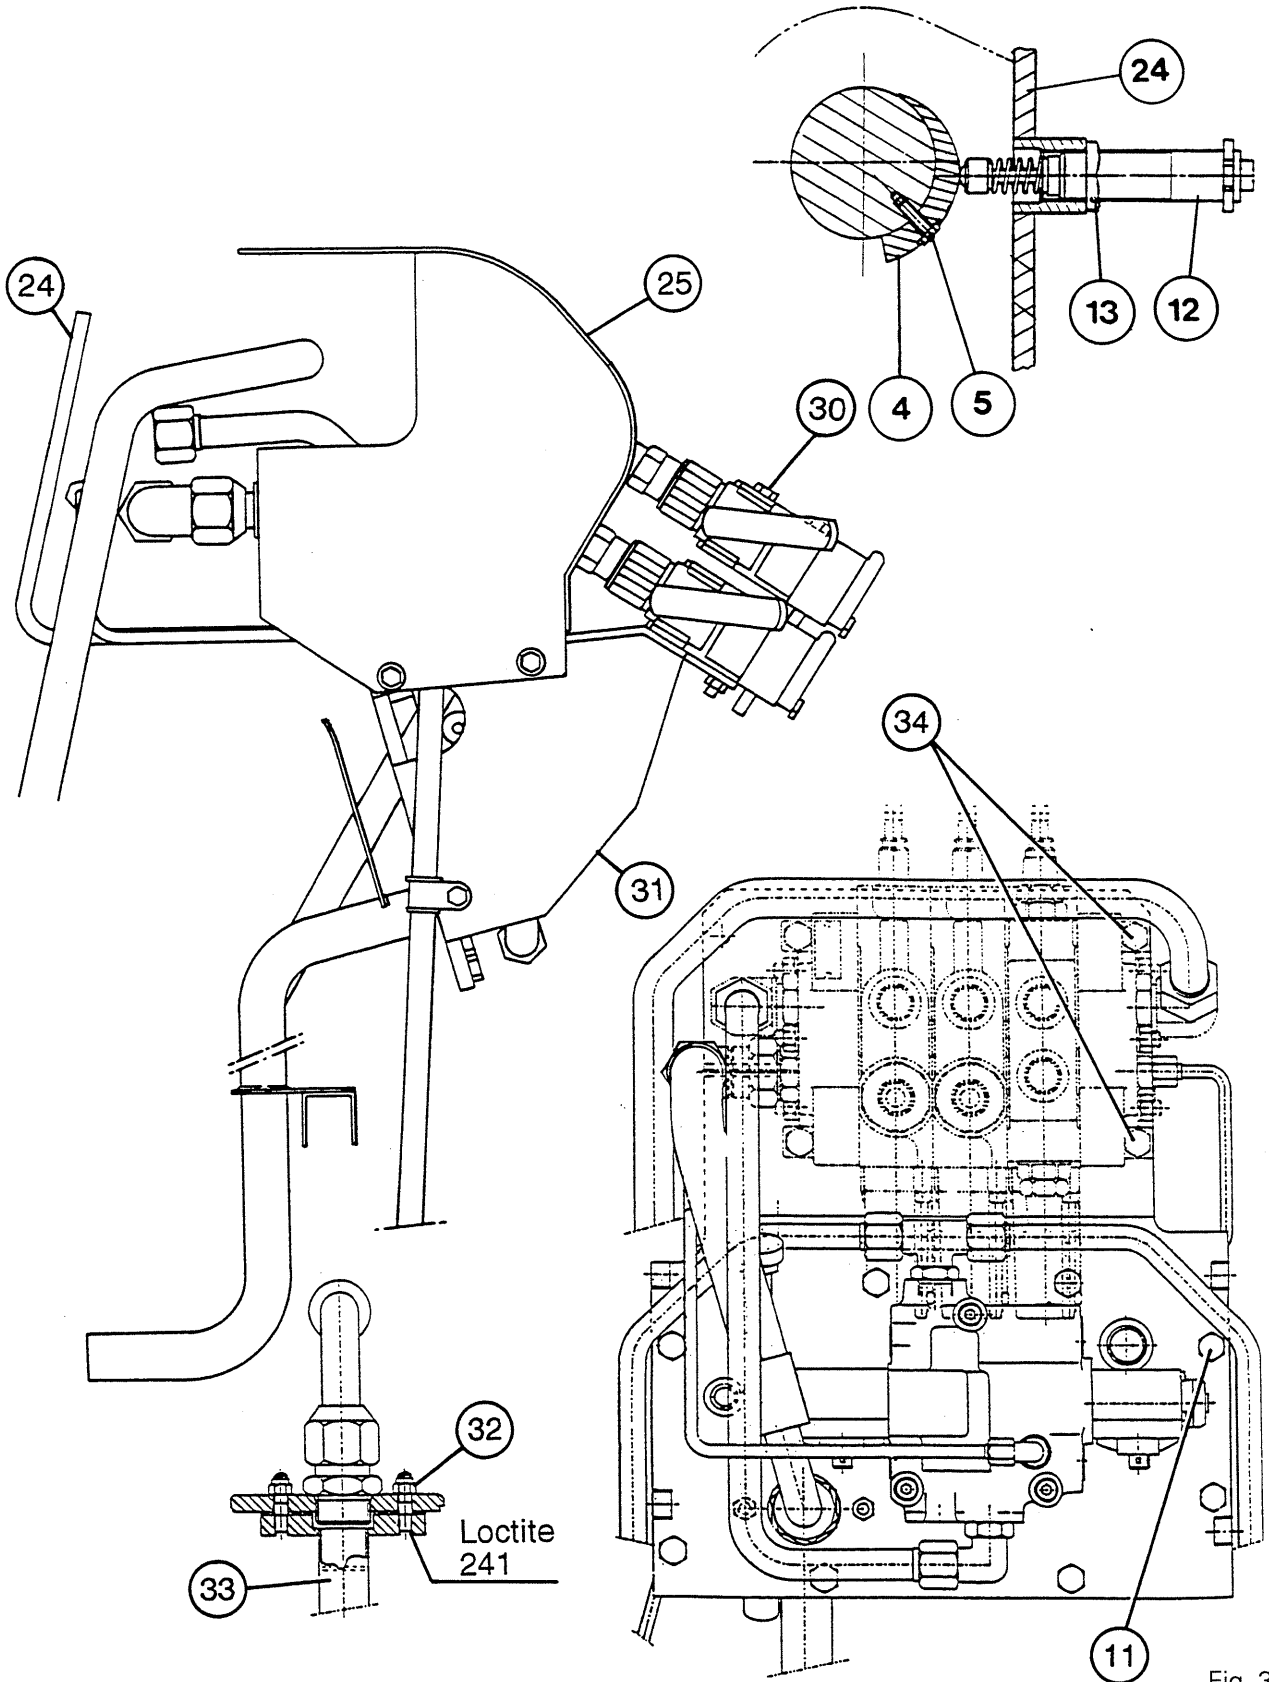

Fig. 3
1. Place the lift arms in the low position. Remove the housing (25) of the lift valve.
- Remove the lower quick couplers from spool valves 1 and 2 (No 1 on the flow divider side). Disconnect the lowering/raising connectors, the pipes on the lift valve and on the spool valves. Remove the spool valve assy without disconnecting the controls. Remove support (24).
3. **Closed centre version (Fig. 3) :**
- Remove the bolts (30)
- Remove the support (31)
- Remove the nuts (32) to loosen the pipe (33). Disconnect the lowering/raising connectors, the pipes on the lift valve and on the spool valves.
- Remove the bolts (34) and remove the spool valves without dismantling the controls.
- Remove the support (24).